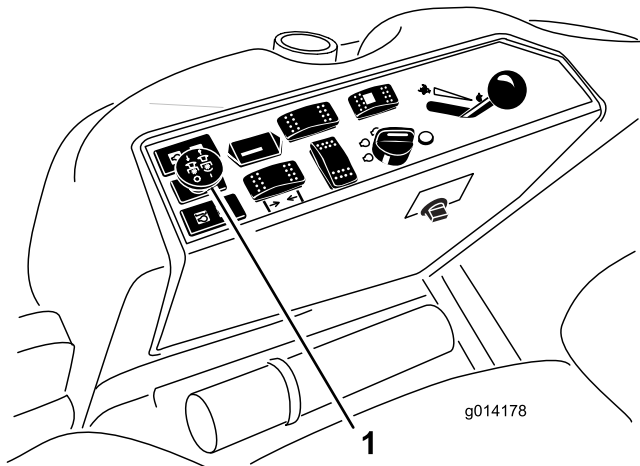

Figure 23
3. Pull up the PTO switch to engage it (Figure 23).